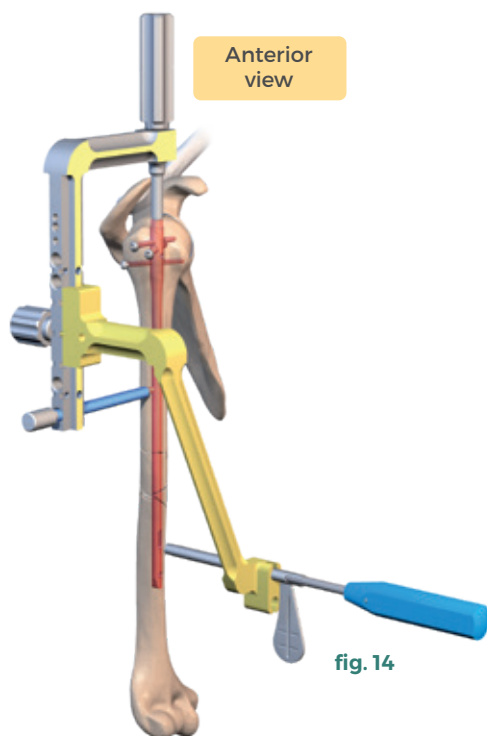

fig. 14
• Insert the D3.1 mm blunt tip drill guide sleeve (**ref. 270 822**) into the aiming sleeve (**ref. 253 678**), until contact is made with the diaphyseal cortical bone and checking for an absence of stress on the soft tissue from the sleeve (**fig.14**).